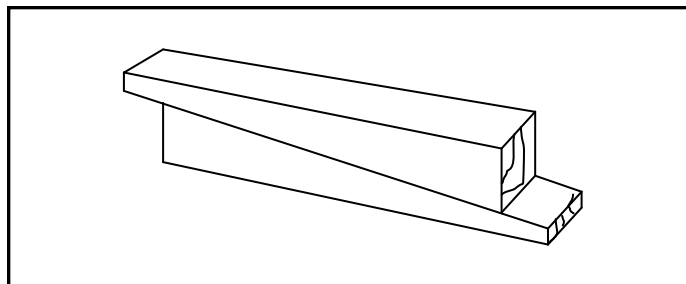

FIGURE 5.2
- 5.2 FIGURE 5.2 below is a pictorial view of folding wedges used during the erection of centering. Study the sketch and answer the questions that follow.